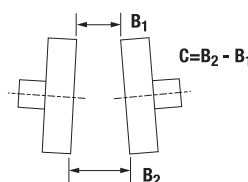

Figure 3
If precision equipment is not available, scales, straight edges, and calipers can be used as less accurate means of alignment. If using a scale or calipers, refer to Figure 3 and check the angular misalignment by measuring dimension "B" at four places 90° apart. Adjust the equipment until the four measurements do not vary more than value "C" in Table 1. If using a straight edge, check the parallel offset by laying the straight edge across the outside diameter of
If precision equipment is not available, scales, straight edges, and calipers can be used as less accurate means of alignment. If using a scale or calipers, refer to Figure 3 and check the angular misalignment by measuring dimension "B" at four places 90° apart. Adjust the equipment until the four measurements do not vary more than value "C" in Table 1. If using a straight edge, check the parallel offset by laying the straight edge across the outside diameter of the flanges in four places 90° apart. The gap between the flange and straight edge should not exceed 1/32" (0.79mm). To achieve maximum coupling performance, align the coupling as accurately as possible during initial installation.
6. Align flanges using precision equipment such as dial indicators or laser equipment. If precision equipment is not available, scales, straight edges, and calipers can be used as less accurate means of alignment. If using a scale or calipers, refer to Figure 3 and check the angular misalignment by measuring dimension "B" at four places 90° apart. Adjust the equipment until the four measurements do not vary more than value "C" in Table 1. Repeat the procedure at both ends of the coupling. To achieve maximum coupling performance, align the coupling as accurately as possible during initial installation.